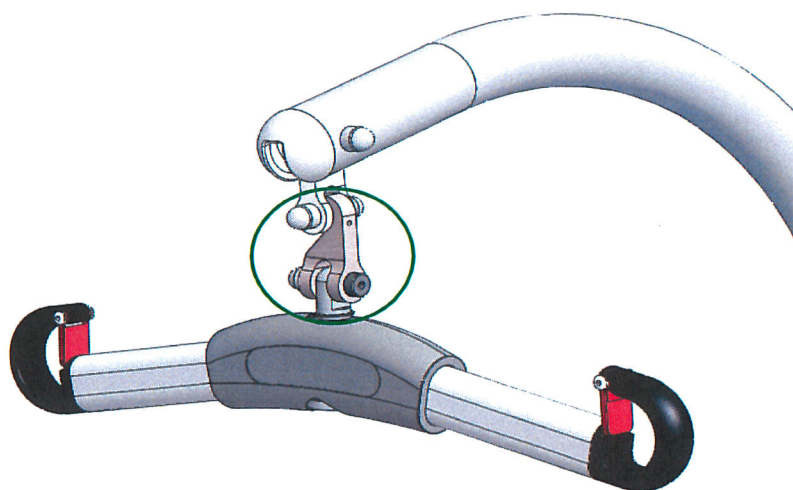

Figure 3. **Correctly mounted** SwiftHook seen from front right hand side. Connection point encircled in green.
3. Confirm that the corrected unit is mounted in accordance with figures 3 and 4 above.